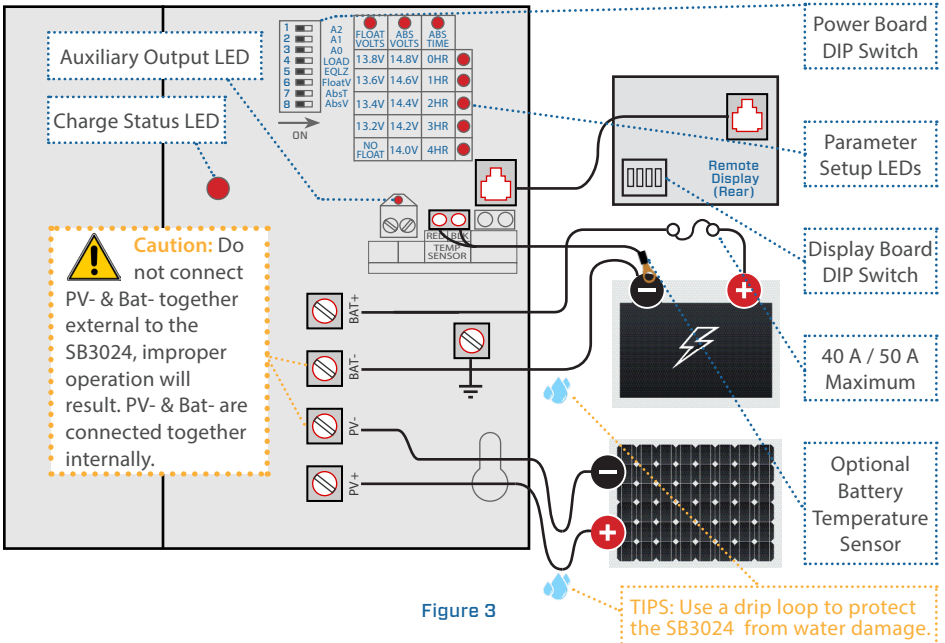

Figure 3
Certain battery types (including lithium) or system configurations may require 2-stage charge control. The SB3024 can be configured for two stage Bulk/Absorption charge control by setting the Float Voltage to "No Float" with the DIP switches (see figure 3) or by the IPN ProRemote, BT Connect, and the UCM. Refer to the IPN ProRemote, BT Connect, or UCM operators manual for their settings.
WARNING: Read, understand and follow the Important Safety Instructions in the beginning of this manual before proceeding. This unit must be installed and wired in accordance with National Electrical Code, ANSI/NFPA 70. Over current protection must be provided externally. To reduce the risk of fire, connect to a circuit provided with 40 A maximum branch-circuit over current protection (50 A with 12 V battery and 12 V PV (Panel) modules) in accordance with National Electrical Code, ANSI/NFPA 70. Do not connect a PV (Panel) array capable of delivering greater than 24 A of short circuit current I_{SC} at STC (32 A with 12 V battery and 12 V PV modules). Do not connect BAT- and PV- together external to the unit. The unit is not provided with a GFDI (ground-fault detector/interrupter) device and must be used with an external GFDI device as required by Article 690 of NEC for the installation location. To reduce risk of electric shock, remove all sources of power before installing or servicing. Figures 3, 4 and 5 show generalized connections only and are not intended to show all wiring, circuit protection and safety requirements for a photovoltaic electrical system.
Setup parameters are divided into two categories, **Basic** and **Advanced**. Basic parameters can be configured with the SB3024 alone within limited steps and ranges as shown in Figure 3. Advanced parameters require the IPN ProRemote, UCM, or BT Connect to access. The IPN ProRemote, BT Connect, and UCM also allows basic settings to be configured in smaller steps and over wider ranges. All setup parameters are retained if power is lost, or the IPN ProRemote/BT Connect/ProTouch/UCM is used as a setup tool only and removed.
2. Turn ALL 8 power board DIP switches shown in Figure 3 ON.
Absorption Voltage, Float Voltage and Absorption Time setpoints can be viewed or changed using the parameter setup LED's and DIP switch shown in Figure 3. Operate only one switch at a time. To view the present setting turn the appropriate DIP switch ON momentarily (AbsV #8, FloatV #6, or AbsT #7). For a 24 V battery the actual voltage setpoints are doubled.
The auxiliary output can serve one of three functions; 1) a 2 A auxiliary battery charger, 2) a 20 A load controller with Low Voltage Disconnect (LVD), or 3) a 20 A variable Dusk-to-Dawn lighting load controller with Low Voltage Disconnect (LVD). The Charge/Load function is selected by DIP switch #4 shown in Figure 3. The IPN ProRemote, BT Connect, or UCM is required to adjust LVD thresholds or enable Dusk-to-Dawn lighting control. Auxiliary outputs in a multi-controller system will function normally, but only the auxiliary output in the master can be configured or monitored using the IPN ProRemote. The auxiliary output "Load" LED will illuminate whenever the auxiliary output is ON (*).